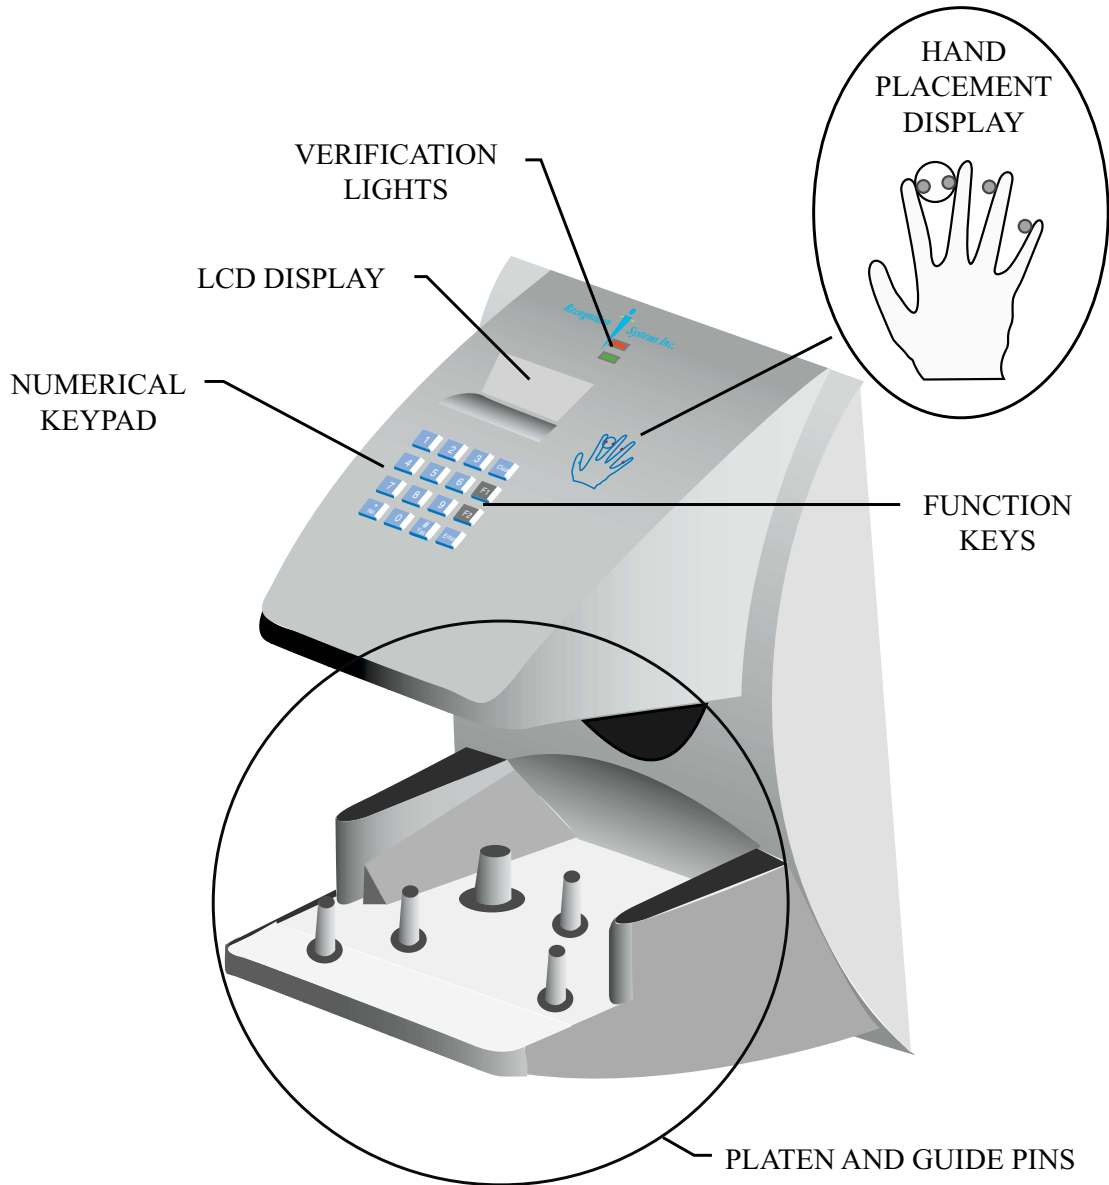

Figure 1-1: The HandKey II
The Hand Reader is an intelligent access control system that can operate as a stand-alone unit, in a network with other Hand Readers, or in a network with a host computer. Refer to Figure 1-1 when reviewing the information in this section.
2. The Platen is the flat surface at the base of the Hand Reader (see Figure 1-1). This is where users place their hands for enrollment and verification. It has guide pins to position the fingers during use.